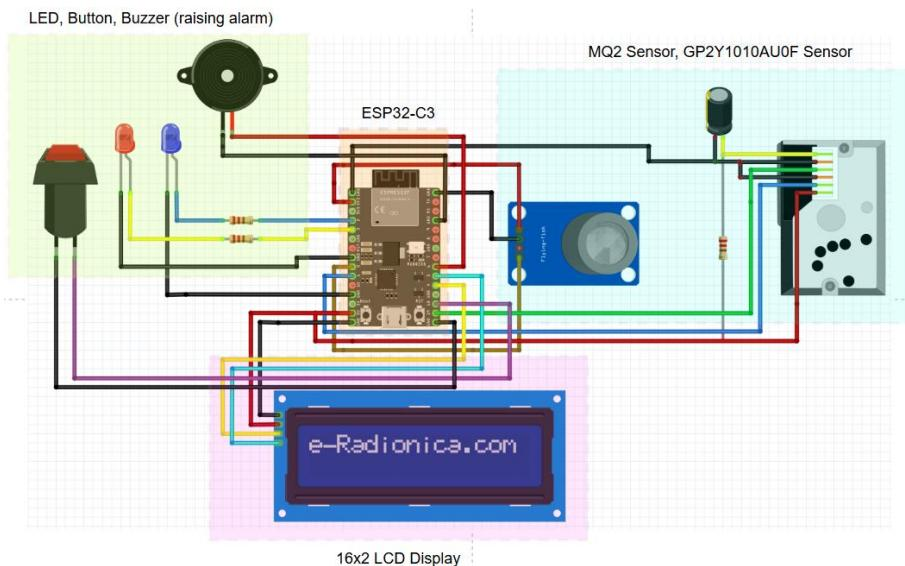

Figure 3: Circuit diagram
- Fritzing: Used to visualize the circuit diagram (mainly for reporting purposes, mentioned in Figure 3).